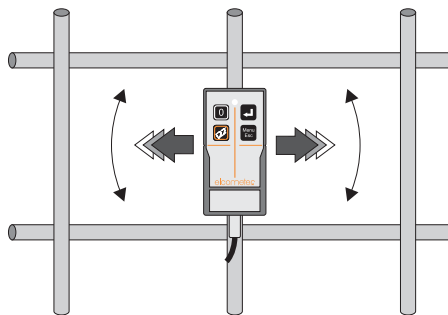

Figure 12. Determining orientation of a reinforcement bar
2. Hold the search head over the bar. Move the search head side-to-side and rotate the head clockwise/anti-clockwise until the signal is at a maximum (Figure 12).